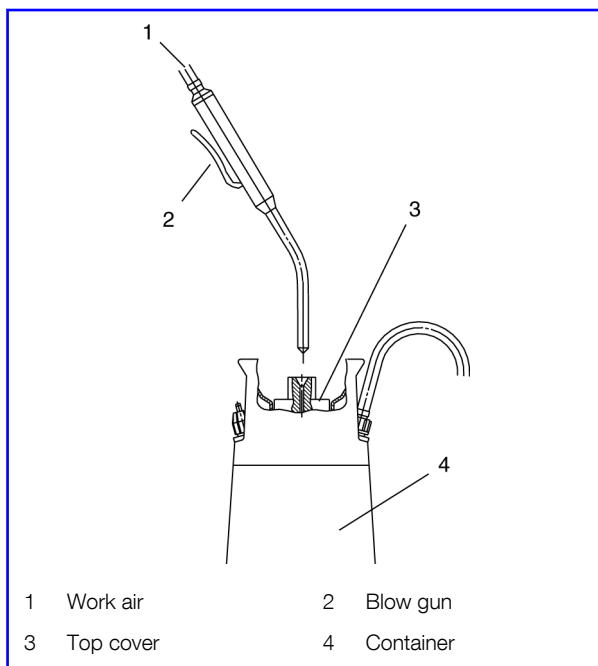

Figure 2: .
- 5) Blow air into the container by means of a blow gun, until an operation pressure of 3 bar is reached (see fig 2).